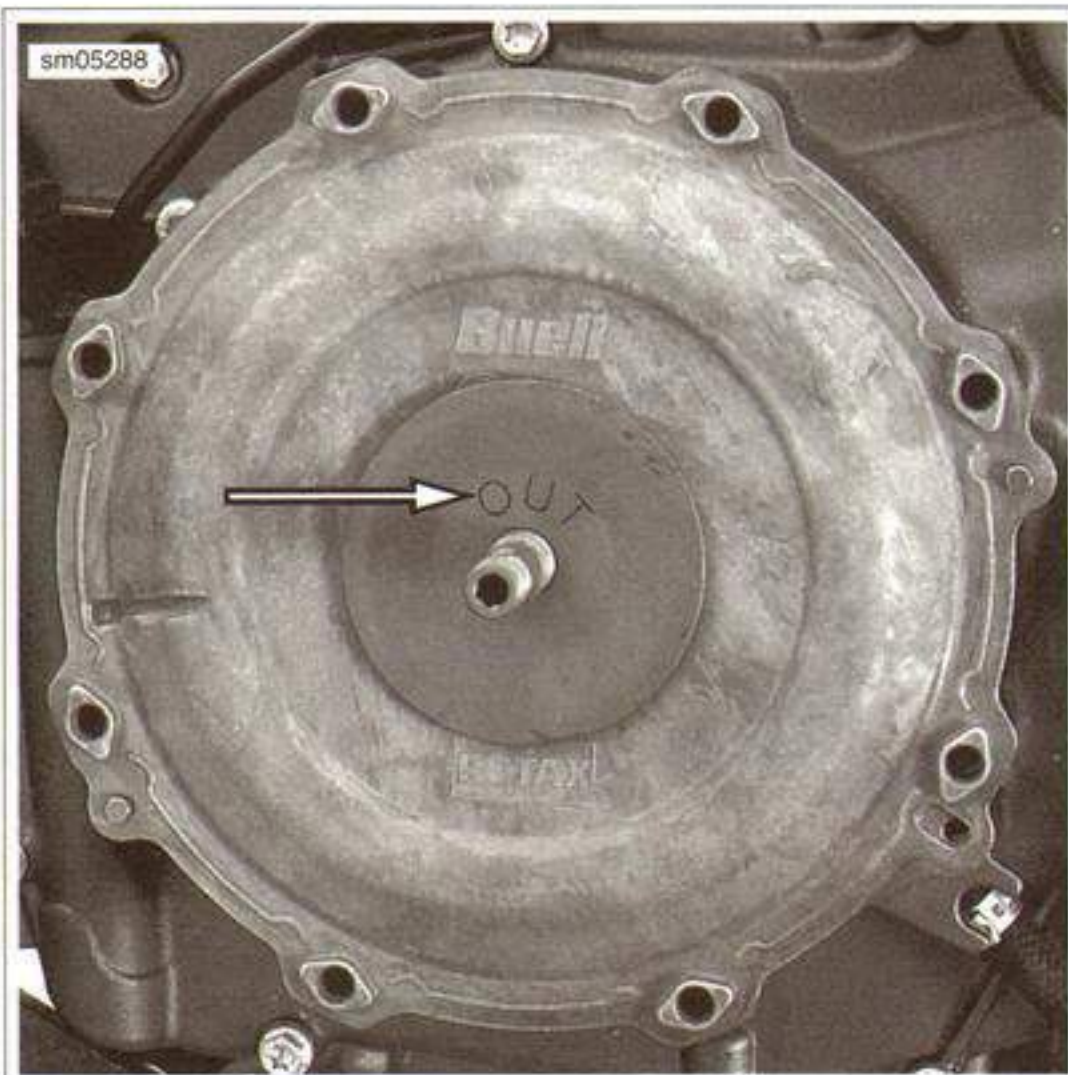

Figure 6-32. Inner Diaphragm Cover and Disc Plate
2. If removed, fit the gasket (2) to the inner cover.
4. Fit the diaphragm cover (3) with the embossed BUELL side out.
5. See Figure 6-32. Fit the inner disc plate (4) with the stamped word OUT side out.